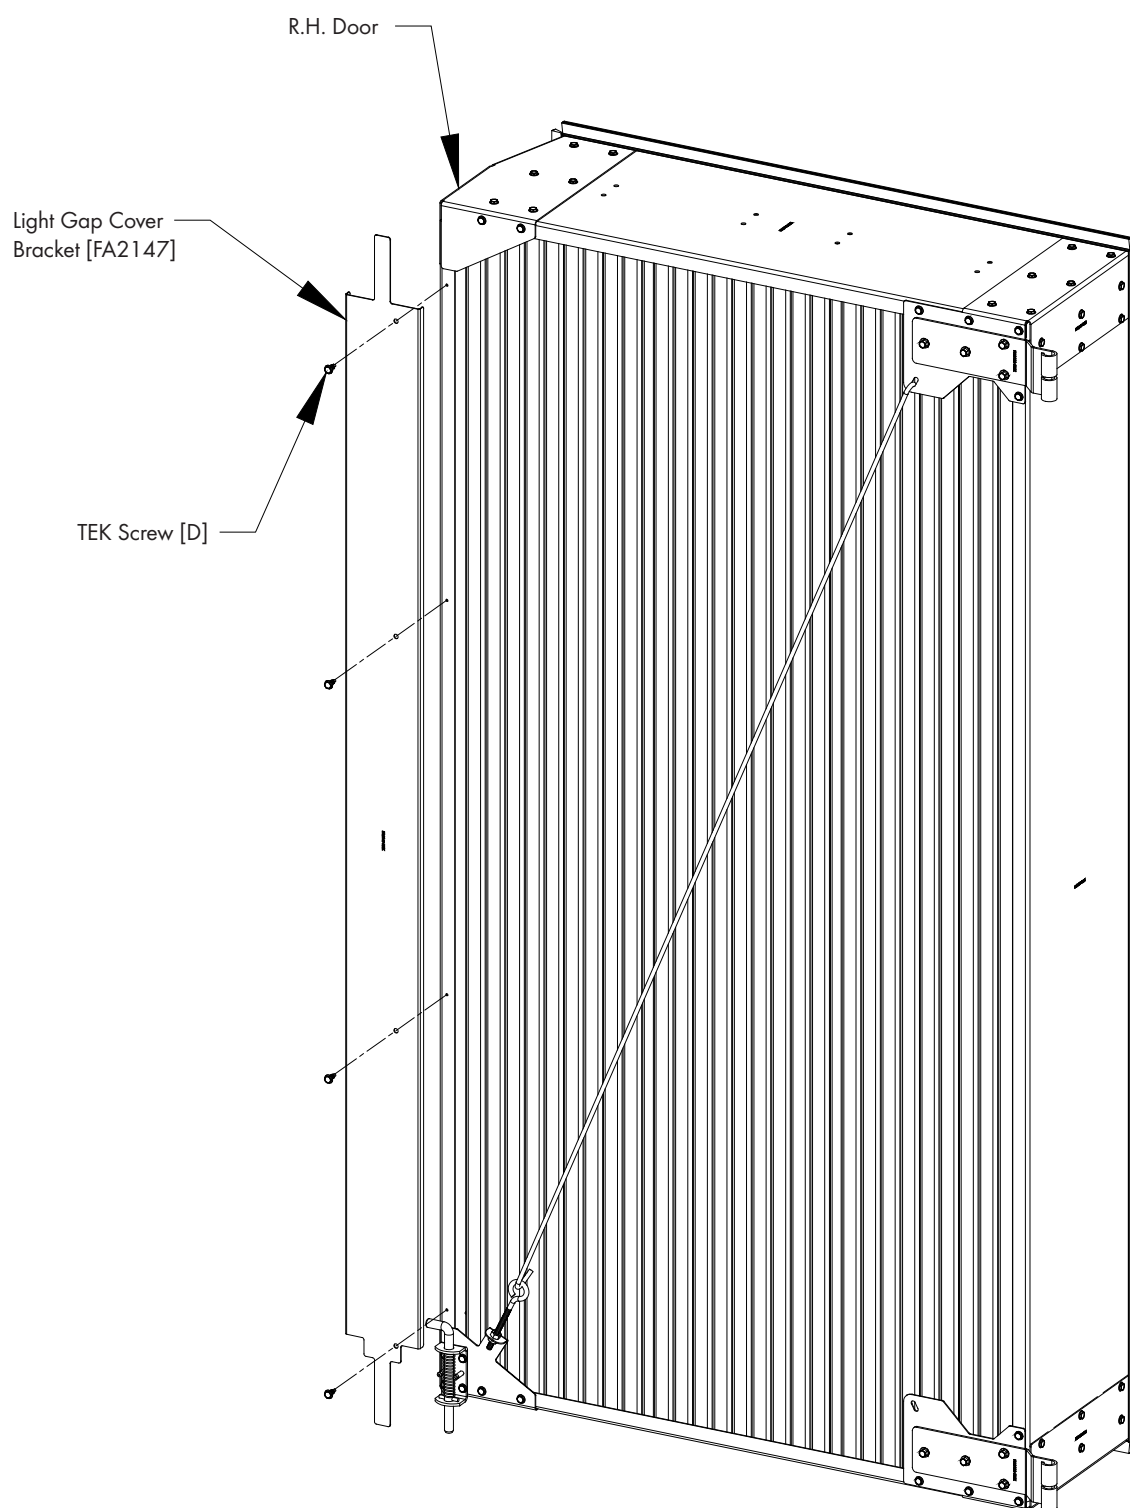

Figure 23
Attach the Light Gap Cover Bracket [FA2147] to the left inlet edge of the R.H. Door and fasten in place using (4) TEK Screws [D]. See Figure 23.